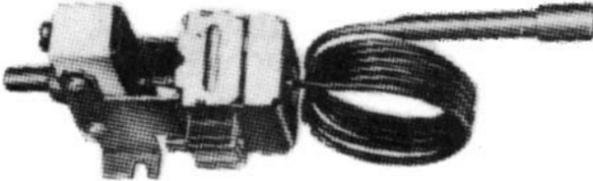

Figure 6-68 High-pressure cutout switch.
A *high-pressure cutout switch* is a pressure-actuated refrigerant controller connected to the pilot (low) voltage circuit of the main contactor in a refrigeration system (see Figure 6-68). These switches are installed in all refrigerating units over 1 hp to provide protection against dangerously high head pressures. These excessive and unsafe pressures develop as a result of a number of different abnormal operating conditions, including (1) air in the refrigerant lines, (2) excessive refrigerant charge, (3) dirty condenser, (4) faulty or inoperative condenser fan, and (5) insufficient water in a water-cooled condenser.